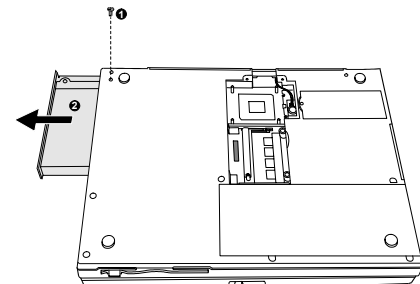

Figure 5-9. Removing the CD-ROM Drive
4. Remove one screw and slide the CD-ROM/DVD-ROM drive out of the compartment. (Refer to Figure 5-9)
2. Slide the CD-ROM/DVD-ROM drive into the compartment and secure with one screw. (Refer to Figure 5-9 earlier.)